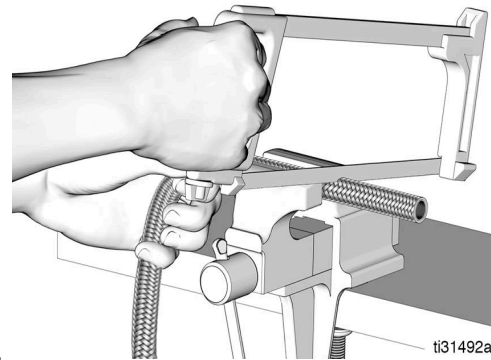

FIG. 61
2. Cut the hose square with a fine-tooth hacksaw or cut-off wheel (FIG. 61).